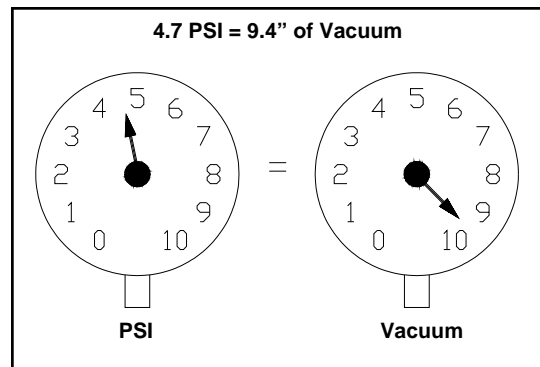

Figure 19
4.7 PSI Working Pressure = 9.4 inches of vacuum. See Figure 19.